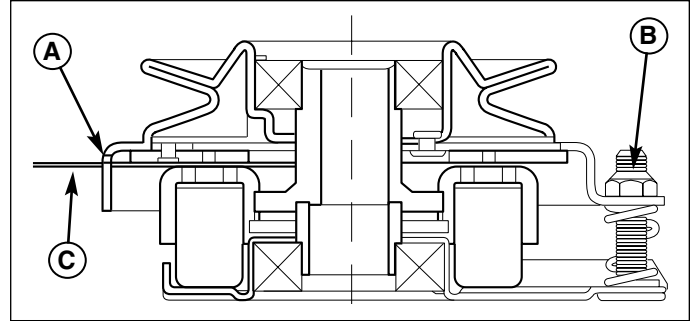

Figure 19. Adjust PTO Clutch
- Insert a .016"-.018" (0,40-0,45mm) feeler gauge (C) through each window, positioning the gauge between the rotor face and the armature face as shown in Figure 19.